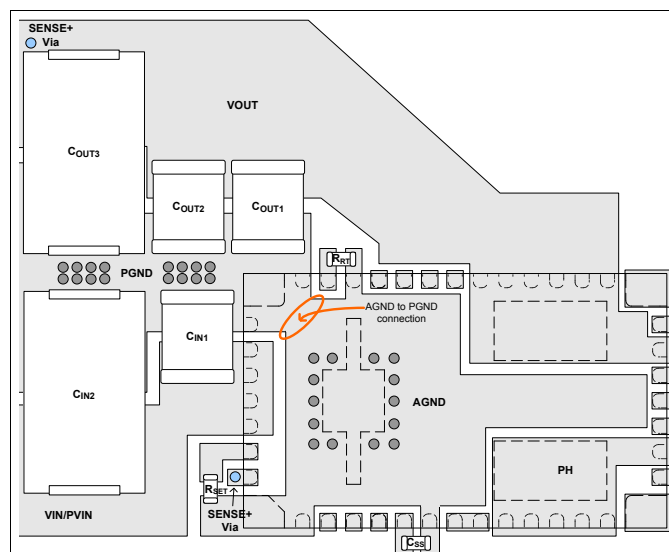

Figure 43. Typical Top-Layer Recommended Layout
To achieve optimal electrical and thermal performance, an optimized PCB layout is required. Figure 43, shows a typical PCB layout. Some considerations for an optimized layout are:
- Connect the AGND and PGND copper area at one point; see AGND to PGND connection point in Figure 43.